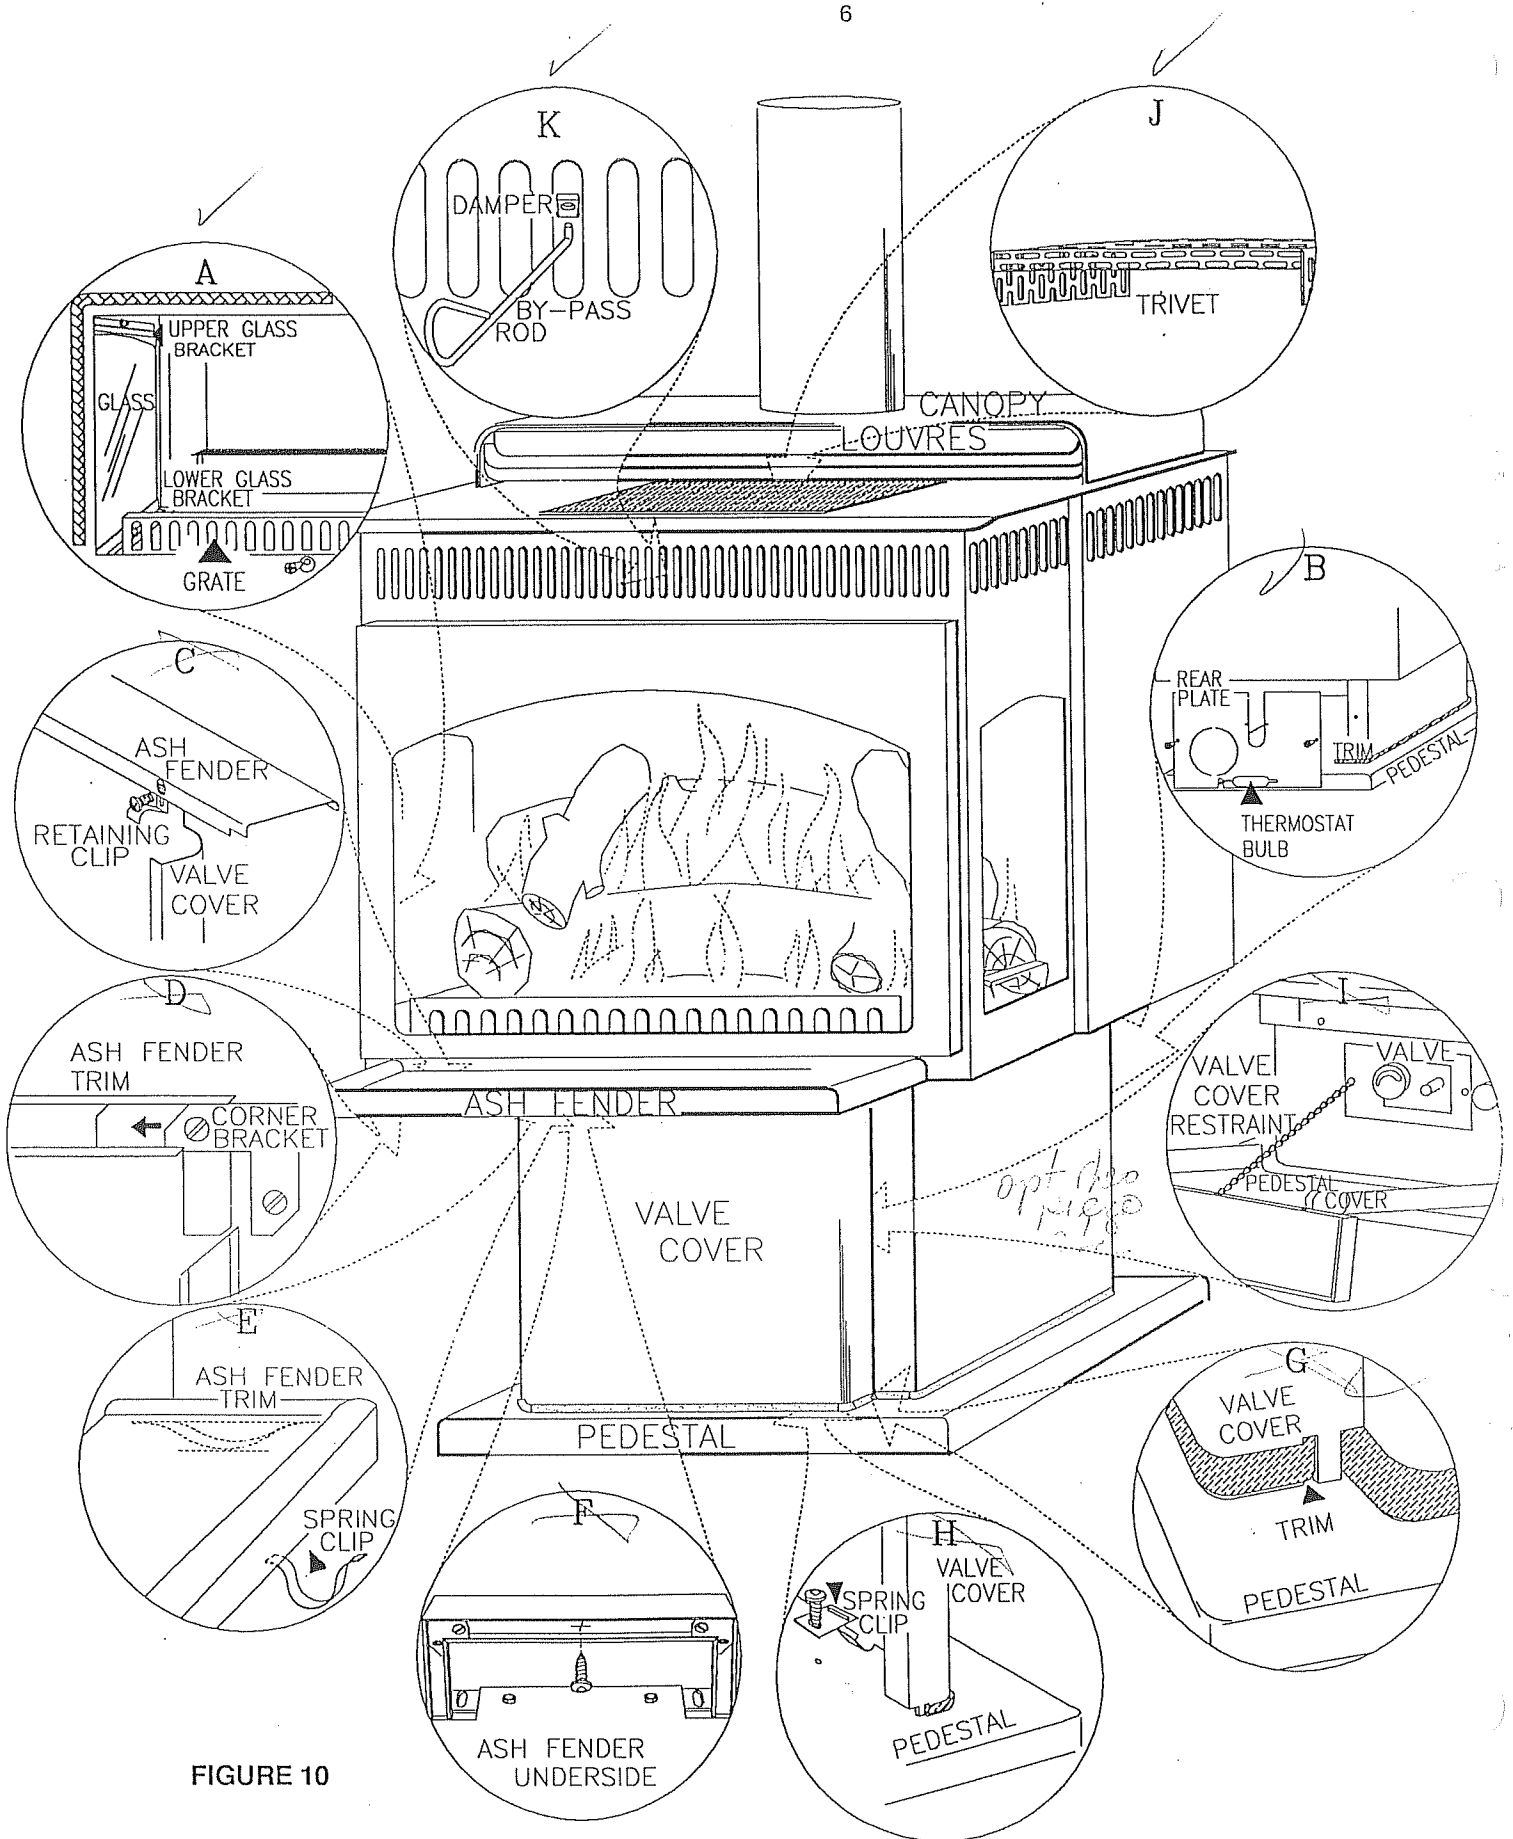

FIGURE 10
10. FINISHING YOUR STOVE (FIGURE 10)
SIDE WINDOWS: To install the side windows, remove the upper and lower glass brackets. Position the glass and replace the brackets. FIGURE 10(A).
GRATE: Secure grate centrally to burner using a #8x1/2" screw. The hole located below the middle of the door opening provides access for your screw driver or socket wrench. FIGURE 10(A).
PEDESTAL TRIM: Remove the rear plate, making sure not to damage the thermostat bulb or to crimp the tubing. Ensure that the pedestal surfaces are clean and dry; peel the protective backing from the trim adhesive and pressing firmly, attach the brass trim to the pedestal where the three sides and the base meet. Start at one end and proceed around the pedestal. Cut trim to size and retain remainder for use on the valve cover. Attach the rear plate as shown trapping the trim between the plate and the pedestal. FIGURE 10(B).
ASH FENDER: Door must be installed before ash fender/valve cover assembly can be made functional. Screw the ash fender and retaining clip as shown to the valve cover using 2 #8 screws and nuts. FIGURE 10(C).
ASH FENDER TRIM: The three pieces of trim are assembled in the same manner as a picture frame. Place the corner brackets (with screw loosened) into the trim sections. FIGURE 10(D). Tighten the screw spreading the two pieces apart. Attach the adjoining section. Repeat with the opposite side. Tighten all screws firmly. Slide onto the outside edge of the ash fender. Insert a spring clip centered into the underside portion of each piece of trim. FIGURE 10(E). Run a self-drilling #6 x 3/8" screw, centered, into the groove located in the underside of the front trim, just behind the front lip of the ash fender. This will prevent the trim being pulled off while opening or closing the valve cover. FIGURE 10(F).
VALVE COVER TRIM: Make sure of a clean and dry surface and as before, peel off the backing from the trim adhesive. Insert one end of the brass trim into one of the slots located in the valve cover and pressing firmly, proceed around to the other slot. Cut trim to size. FIGURE 10(G).
VALVE COVER: Attach a spring clip to each of the two tabs located on the lower inside edge of the valve cover. Tilting the valve cover slightly towards you, locate the spring clip hole over the corresponding hole in the pedestal base and secure using the two #8 screws. FIGURE 10(H).
VALVE COVER RESTRAINT: Attach one end of the restraint to the valve cover plate using the screw to the left of the valve. The other end is fastened to the center hole at the top of the pedestal cover using a machine screw and nut. FIGURE 10(I). *ADJUST RETAINING CLIPS (FIG. 10 I) TO SECURE VALVE COVER IN CLOSED POSITION.*
ORNAMENTAL TRIVET: Insert trivet into the space on the stove top. FIGURE 10(J).
The summer by-pass damper has been designed for those days in spring, summer or early fall, when you wish to enjoy the atmosphere of a fire without producing excessive heat. Using the by-pass rod (supplied), reach through the upper decorative slots and hooking onto the damper, pull towards you to by-pass the heat exchanger FIGURE 10(K). For maximum heat output, close damper fully.
The fireplace gas valve is controlled and modulated using a thermostat bulb located on the knockout plate at the rear of the pedestal. FIGURE 10(1). On cold start-ups, the main burner will come on at maximum input rate. As the room temperature rises and nears the point that is set on the gas knob, the input (flames) will modulate (reduce gradually) to the minimum input rate. Gas input remains at this level until the set point is reached; at this time the main burner will completely shut off. When the room temperature drops a few degrees, the main burner will re-ignite at a reduced input rate. For full view of the fireplace flames, set the gas knob to "HI".
3. Check to see that all burner ports are burning. Clean out any of the ports which may not be burning or are not burning properly. FIGURE 10.